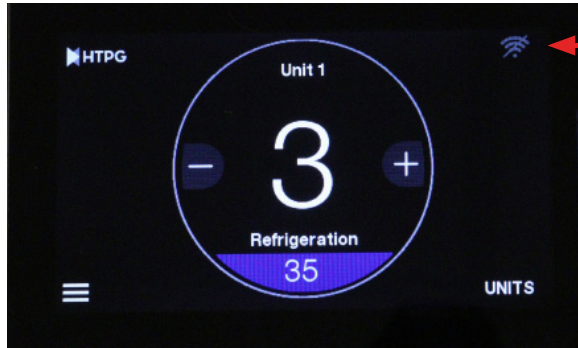

Figure 2
3. Download the EcoNet app from the iOS App Store or Google Play Store shown in Figure 2.
1. Download the EcoNet app from the iOS App Store or Google Play Store (Figure 2).